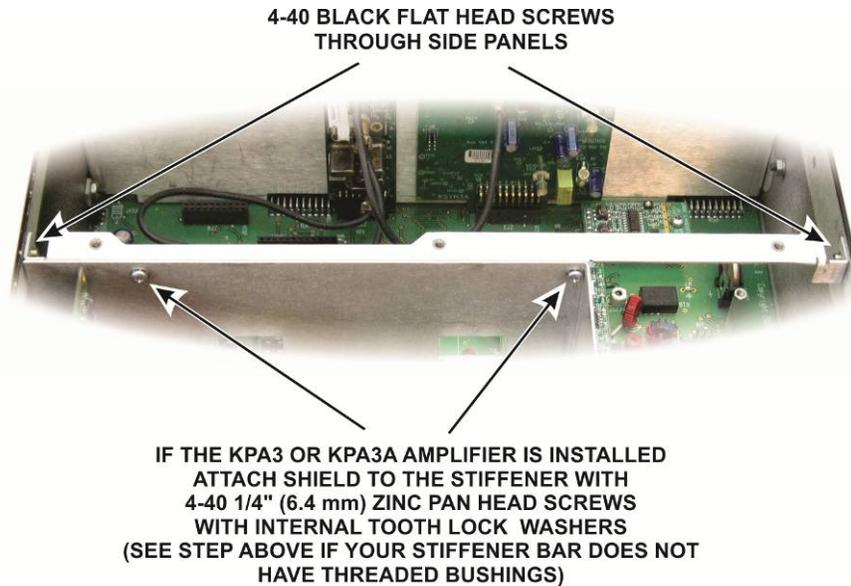

Figure 21. Installing the Chassis Stiffener.
- If you removed the chassis stiffener replace it as shown in Figure 21. Some stiffener bars do not have permanently-attached PEM nuts for the screws attaching them to the amplifier shield. If not, you found 4-40 nuts when the bar was removed. Place the lock washers under the nuts instead of under the screw heads.